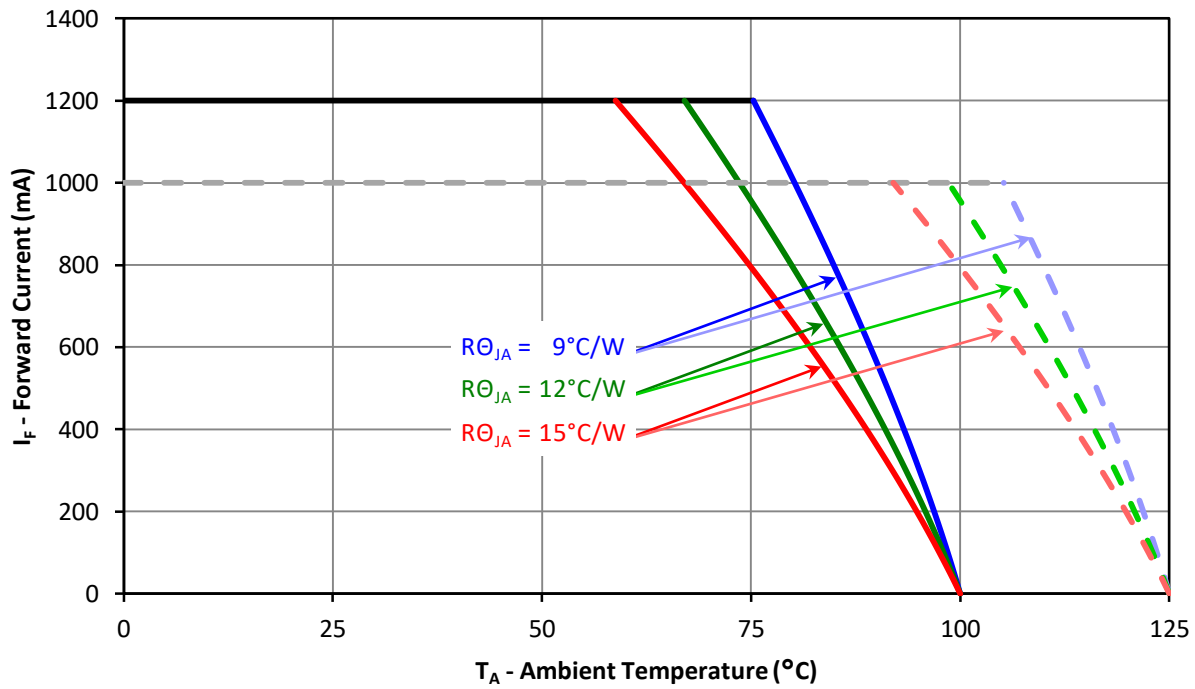

Figure 11: Maximum forward current vs. ambient temperature
1. Maximum DC forward current is determined by the overall thermal resistance and ambient temperature. Follow the curves in Figure 11 for current derating.
Notes for Figure 11: